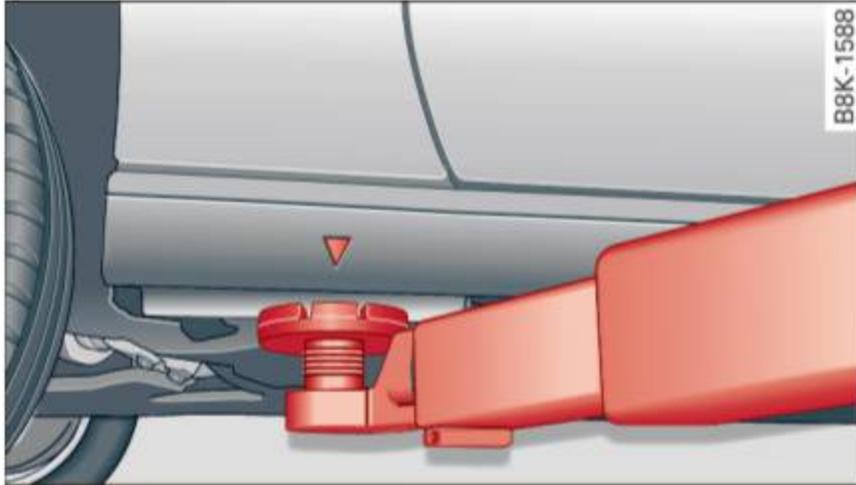
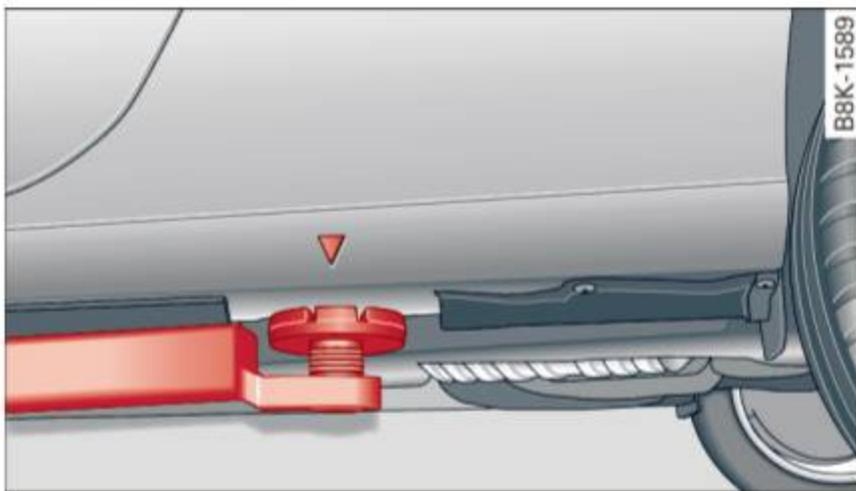

Fig. 193 Front lifting point
Fig. 194 Rear lifting point
- ▶ Locate lifting points ⇒ fig. 193 and ⇒ fig. 194.
The lifting point is located on the floor pan reinforcement about at the same level as the jack mounting point ⇒ fig. 193. **Do not lift the vehicle at the vertical sill reinforcement.**
The lifting point is located on the vertical reinforcement of the lower sill for the onboard jack ⇒ fig. 194.
- Always lift the vehicle only at the special workshop hoist and floor jack lift points illustrated ⇒ fig. 193 and ⇒ fig. 194.